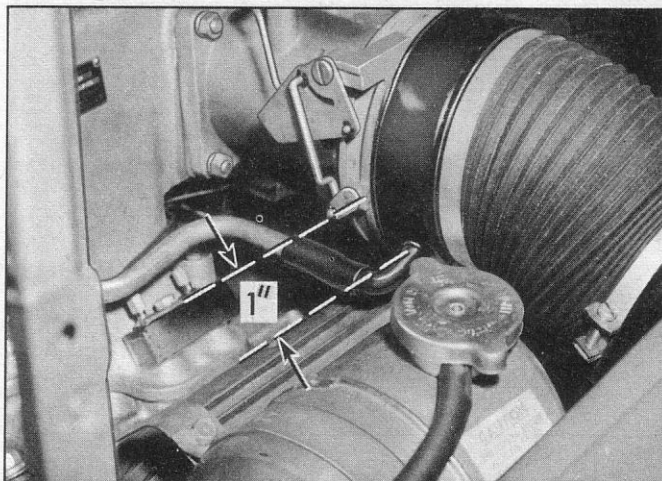

Fig. 72—Positioning Air Meter Hose Adapter
4. Attach air cleaner flexible hose adapter to air meter with retaining wing nut. Position adapter so that vent tube is approximately 1" below choke valve linkage (fig. 72).